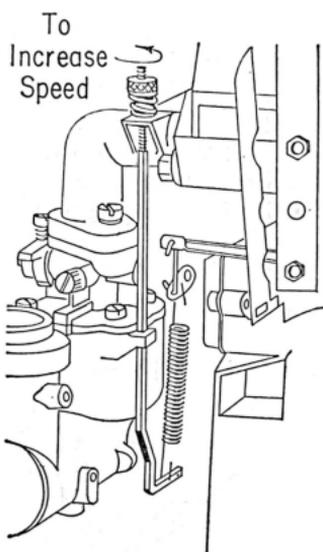

Fig. 6
6.05 An air vane governor is supplied on the engines used for driving pumps, heater-ventilator units and blowers. This type of governor is illustrated in Fig. 6.